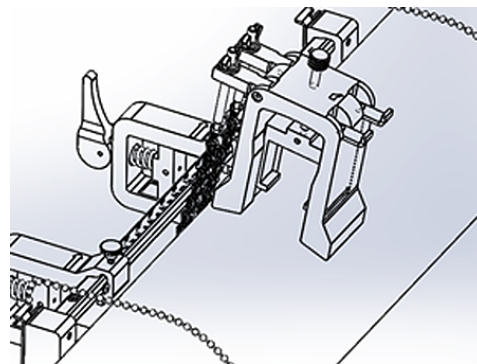

Figure 26: Yoke placement on top of pipe
2. Place the yoke on the top of the pipe (see *Figure 26* below). If the required transducer spacing is <305 mm/12 in., the yoke chain must be placed within the clamping fixture as shown.